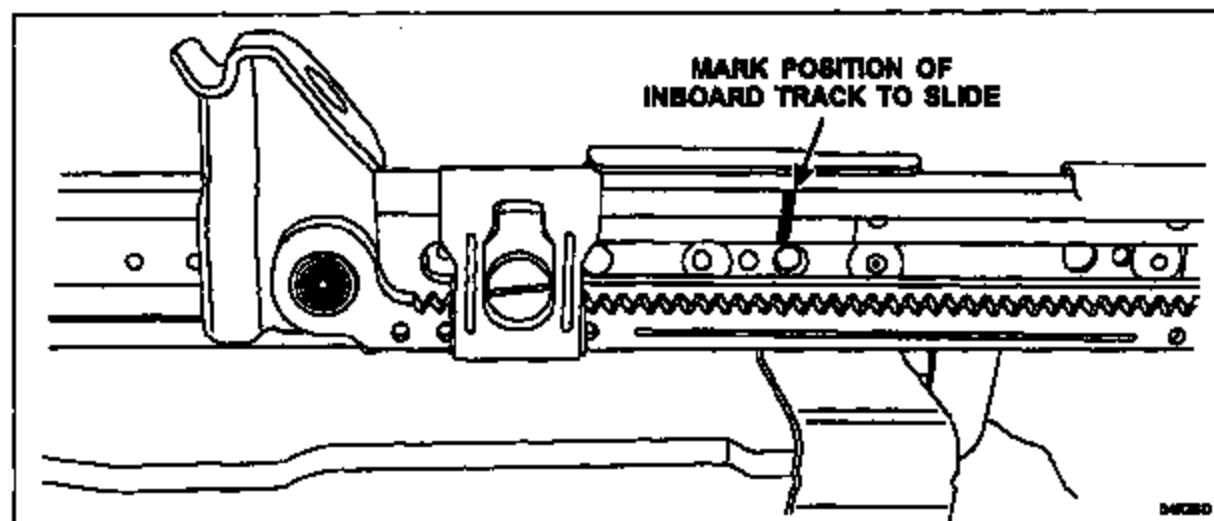

FIGURE 4
5. Mark the position of the inboard track C-channel to the plastic-coated slide as shown. See Figure 4.
- 14. Check to make sure the index marks on the inboard track C-channel and plastic-coated slide are still in alignment. The index marks on the inboard track C-channel and plastic-coated slide must align at this step. If the index marks do not match up, repeat Steps 10 through 12. See Figure 4.